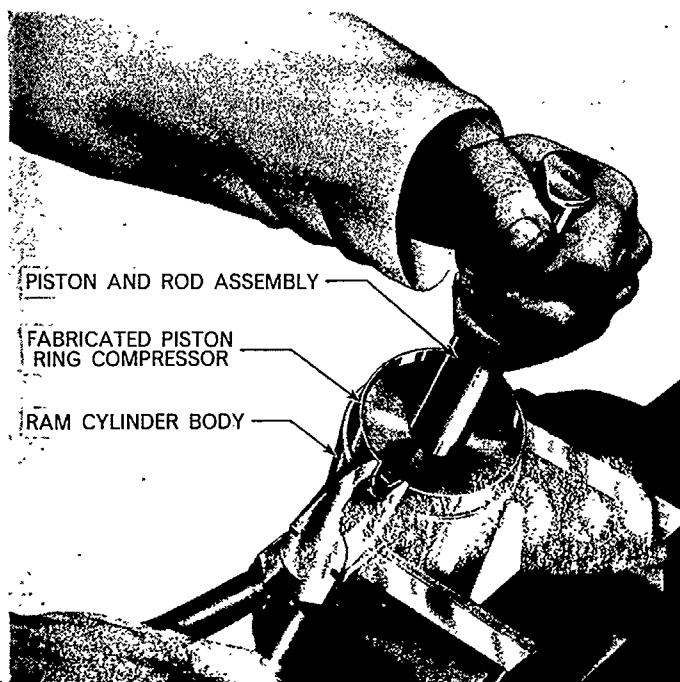

Figure 62
3. Remove the piston and rod assembly from the cylinder and inspect the cylinder for scoring on the bore, and inspect the piston and ring for excessive wear or damage. Install the piston and ring assembly in the cylinder using a suitable strip of metal, as shown in Figure 62, as a piston ring compressor.